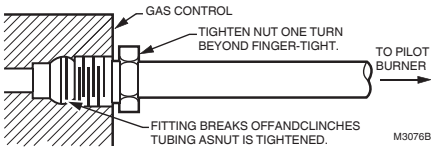

Fig. 7. Always use new compression fitting.
4. Push tubing into the pilot gas tapping on the outlet end of the control until it bottoms. While holding the tubing all the way in, slide the compression fitting into place and engage threads—turn until finger-tight. Then tighten one more turn with wrench. Do not overtighten. Refer to Fig.7.